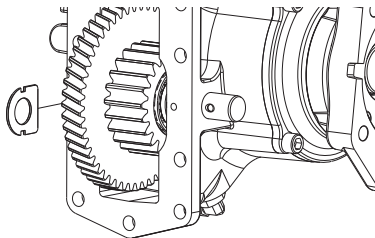
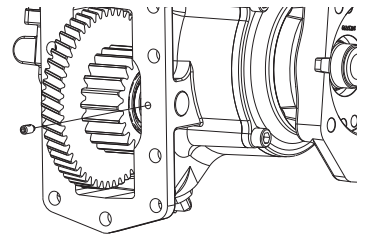

Figure 11 – Shim Pre-load
Figure 12 – Securing Input Shaft
5. Tap the input shaft in the reverse direction so that it is flush with the bearing in this assembly. Insert the thickest shim (33) that can be installed by hand in the gap between the bearing and housing. Remove the shim (33) and select the next thickest shim and drive into the gap. Rotating the gear to make sure it easily rotates. The recommended bearing pre-load is .002" to .006" loose (the cone spacer sets this pre-load and the measurement is not required). *See Figure 11*
6. Tap the input shaft (30) into position and install the set screw (34). Torque the set screw to 3 ft.lb.
*See Figure 12*